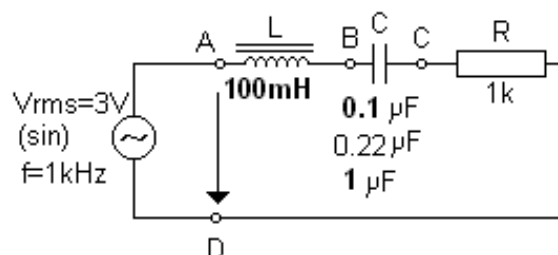

Figure 1
1. Connect the circuit as shown in Fig. 1,